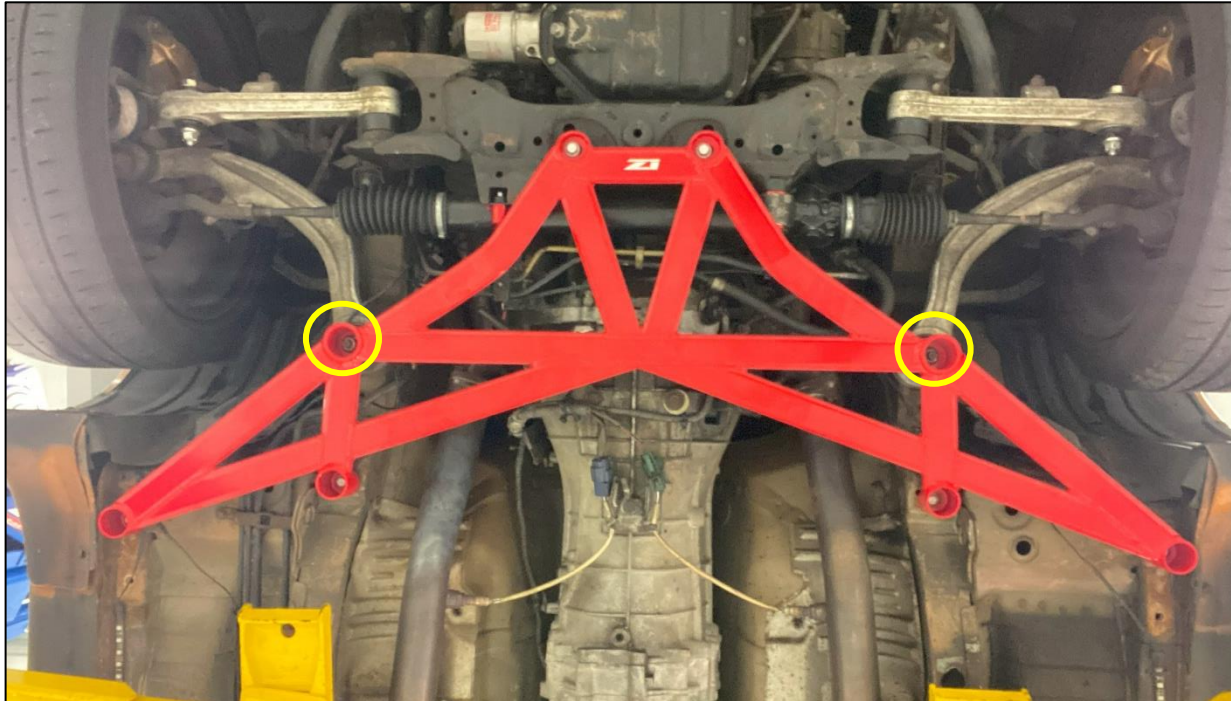

Figure 3
5. Reinstall the (2) two nuts removed from the Compression Arm mount in *Step 3*. Torque to **104-125 ft-lbs.** *Figure 3.*